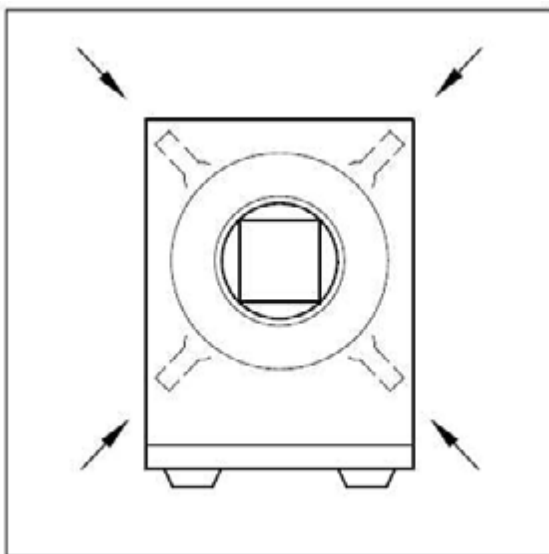
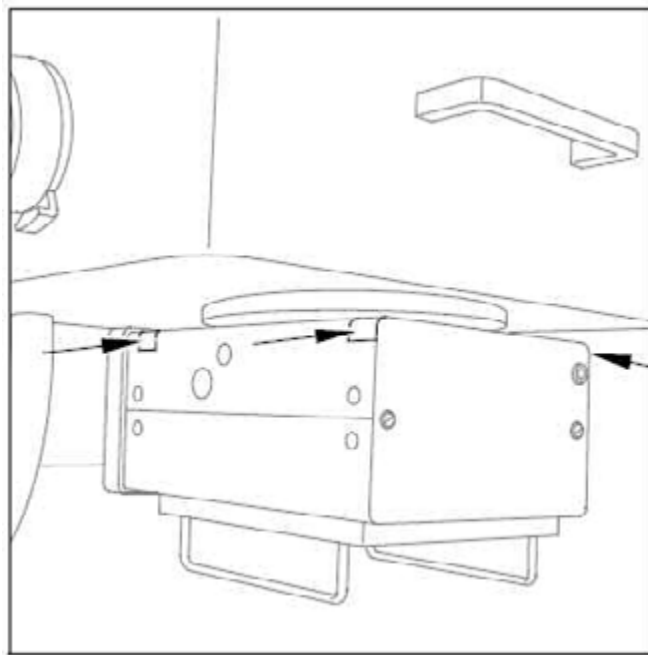

Fig. 36: collimator_movement_1
Fig. 37: collimator_movement_2
- If the deviation is higher, loosen the 4 Allen screws slightly (arrows/Fig. 36 / p. 88) and (arrows/Fig. 37 / p. 89) and move the collimator accordingly.
Then, tighten the screws on the collimator (arrows/Fig. 36 / p. 88) (torque Nom: **0.75 Nm**, tolerance: $\pm 10\%$) and (arrows/Fig. 37 / p. 89) again.